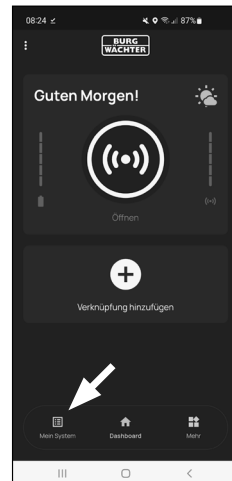

Fig. 4
- 7 The *BURGS*mart app main screen appears. Open the "My System" menu at the bottom left (Fig. 4).